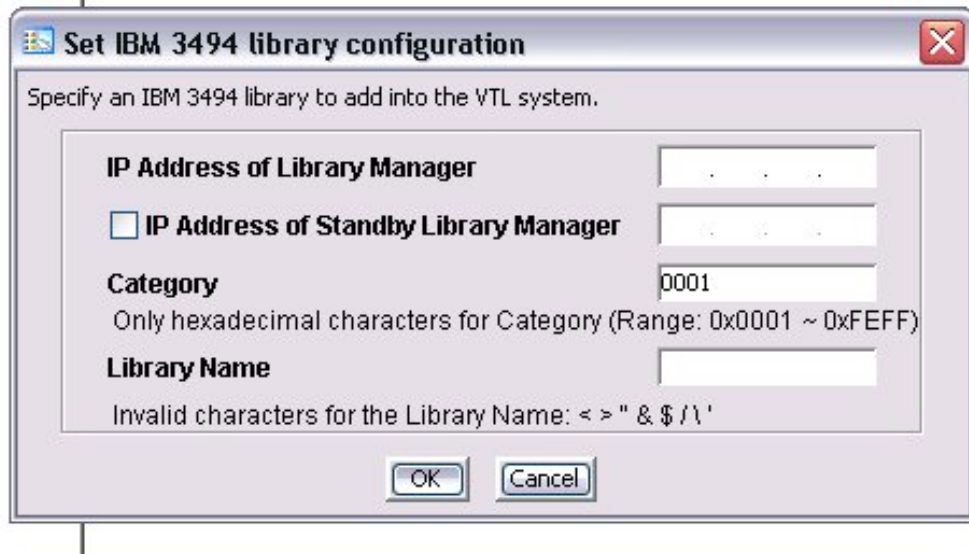

Figure 40. 3494 Tape Library configuration
1. __ Right-click **Physical Tape Libraries** and then click **Assign IBM 3494**. See Figure 40 on page 52.